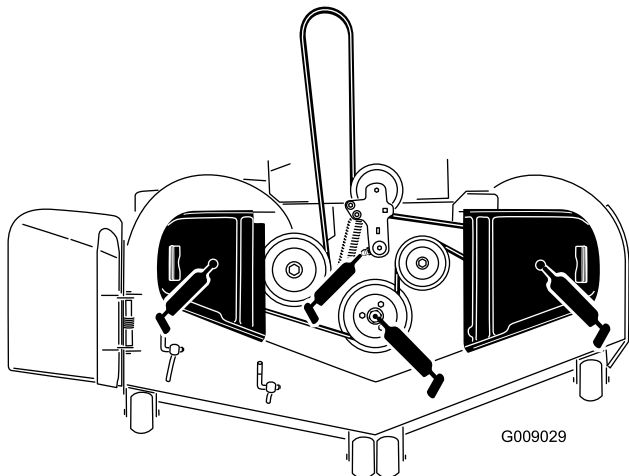

Figure 46
3. Grease the mower-deck idler-pulley pivot until grease come out the bottom (Figure 46).
4. Grease the 3 spindle bearings until grease comes out the lower seals (Figure 46).
5. Grease the drive-belt idler arm (Figure 46).